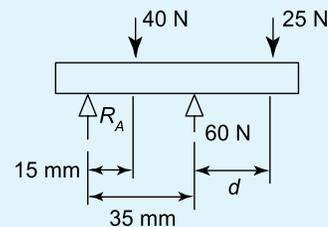

Figure 5.9
- The forces acting on a beam are as shown in Figure 5.9. Neglecting the mass of the beam, find the value of  $R_A$  and distance  $d$  when the beam is in equilibrium.